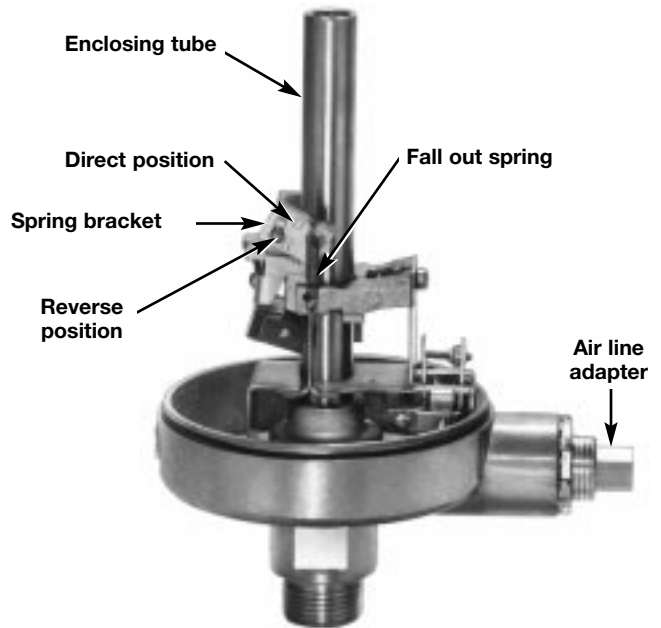

Figure 4
2. Loosen the screw that positions the spring bracket and move it from the direct (D) position to the reverse (R) position; refer to Figure 4. Fasten screw securely.